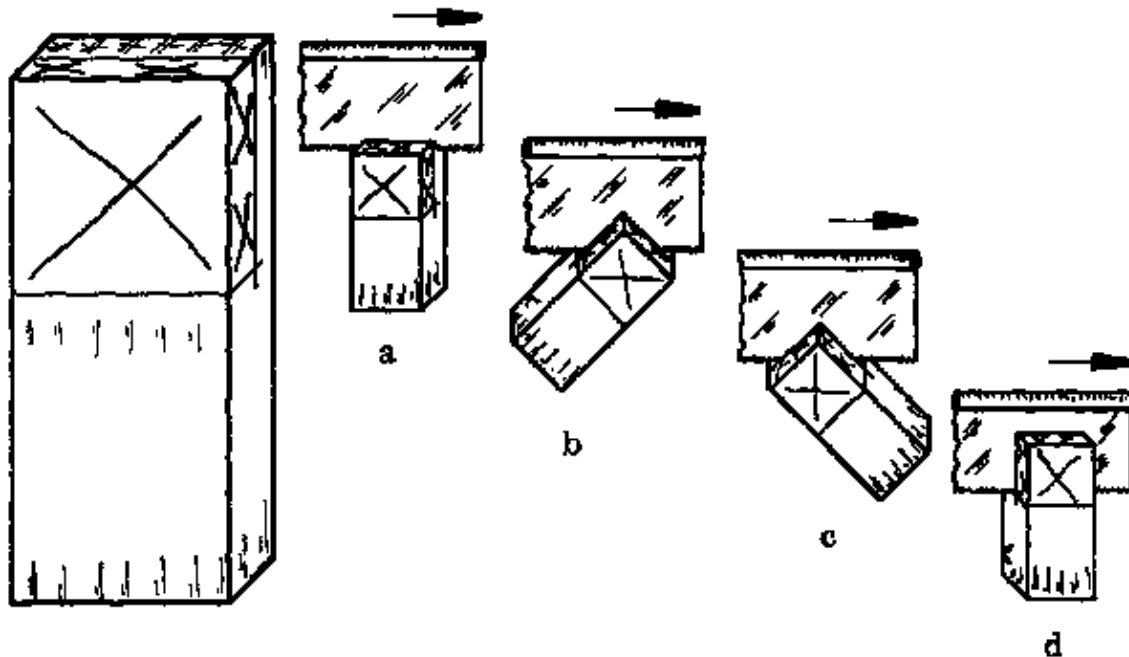

Fig. 5
– Rip the thickness of the pin. Cut in stages as shown in Fig. 5, a through d. Take care to keep on the waste side of the line.